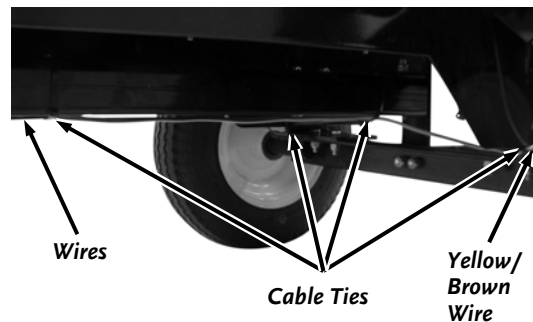

Figure 11
6. Position the Yellow/Brown Wires along the left side of the axle and up to the light location over the Fender (**Figure 11**).